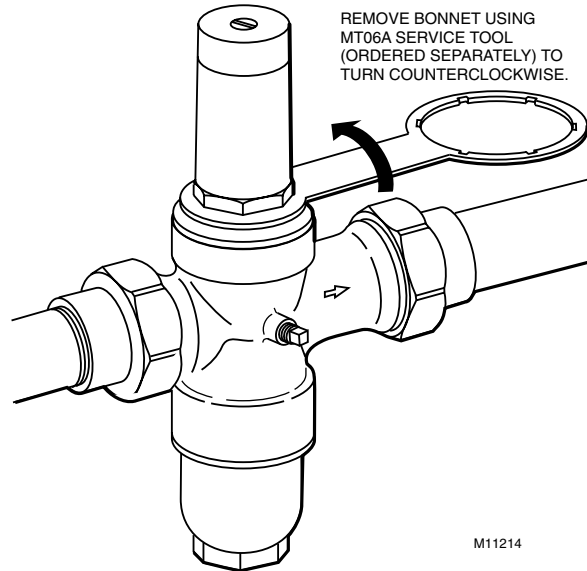
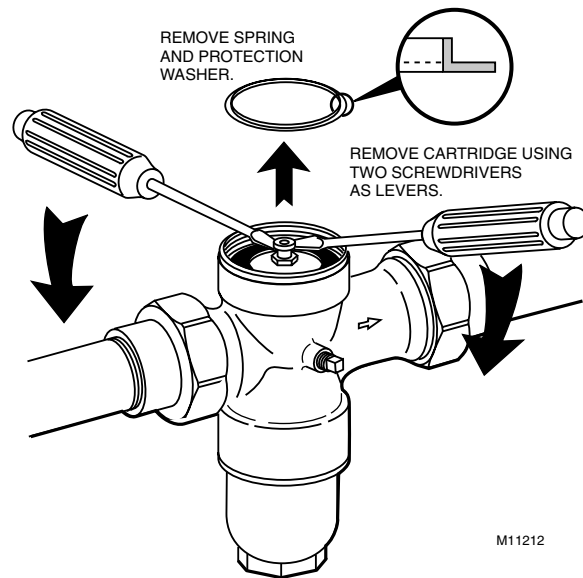

Fig. 3. Removing bonnet.
Fig. 4. Removing cartridge.
- 3 Remove the bonnet (Fig. 3) by using the MT06A1009 or MT06A1017 Service Tool and turning counterclockwise. Remove the spring and protection washer (Fig. 4).
- 4 Remove the cartridge using two screwdrivers as levers (Fig. 4). Remove the cartridge O-ring.